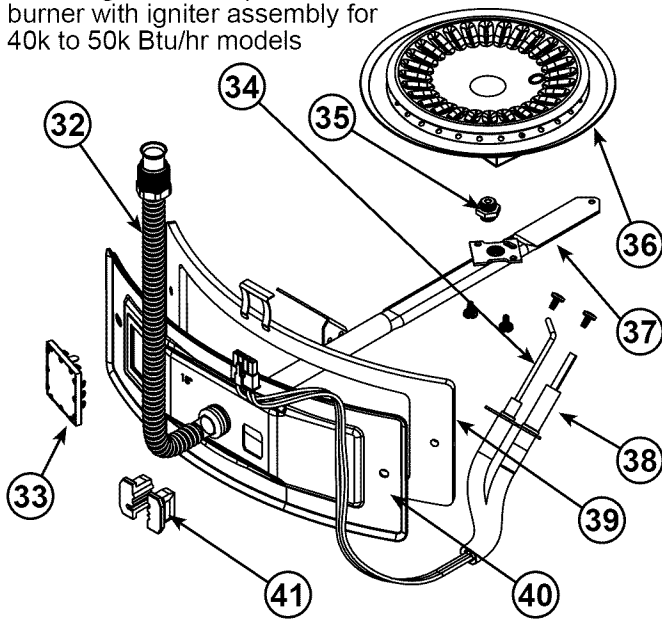
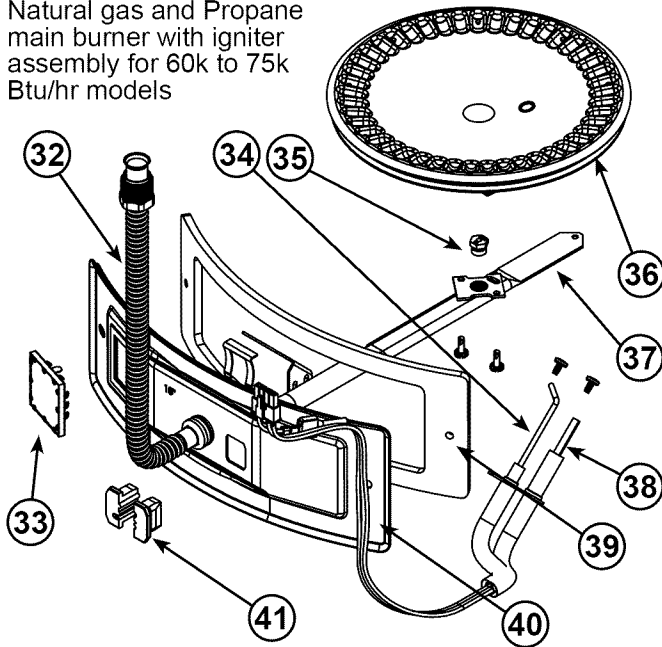
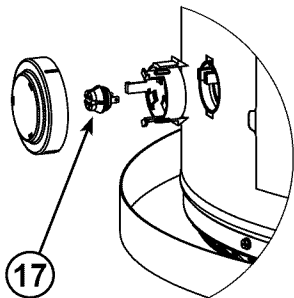
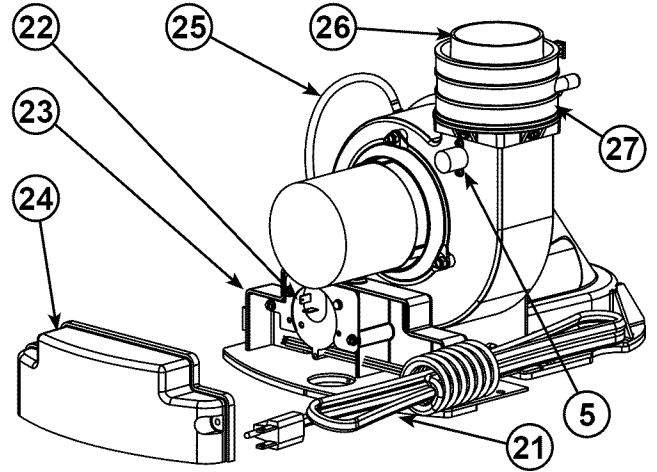

Figure 3.
Figure 4.
Figure 5.
Figure 6.
| 1. Vent Termination Elbow with Rodent Screen | 18. **Combo Heating System Return Inlet (Optional) | 35. Gas Orifice (see Figure 3 & Figure 4) |
| 2. *Vent Pipe | 19. Air Inlet Snorkel | 36. Sheet Metal Burner (see Figure 3 & Figure 4) |
| 3. *Vent Pipe Coupling (if required) | 20. **Combo Heating System Supply Outlet (Optional) | 37. Gas Manifold (see Figure 3 & Figure 4) |
| 4. *Vent Pipe Elbow (long radius) | 21. Blower with Power Cord (see also Figure 6) | 38. Hot-Surface Igniter (see Figure 3 & Figure 4) |
| 5. Blower High Limit Switch (see Figure 6) | 22. Air Switch (inside box) (see Figure 6) | 39. Manifold Door Gasket (see Figure 3 & Figure 4) |
| 6. T&P Valve | 23. Junction Box (see Figure 6) | 40. Manifold Door (see Figure 3 & Figure 4) |
| 7. Cold-Water Inlet Nipple/Diptube | 24. Junction Box Cover (see Figure 6) | 41. Two Piece Grommet With Clip (see Figure 3 & Figure 4) |
| 8. Baffle Assembly | 25. Air Tubing (see Figure 6) | 42. *Inlet Water Shut-off Valve |
| 9. * Discharge Pipe | 26. Rubber Coupling (see also Figure 6) | 43. *Gas Supply* |
| 10. Gas Control Valve/Thermostat (Honeywell) | 27. Gear Clamp (see also Figure 6) | 44. *Main Manual Gas Shut-off Valve |
| 14. Manifold Door Assembly (behind outer door) (see Figure 3 & Figure 4) | 31. ***Control Harness | 48. Rating Plate |
| 15. *Floor Drain | 32. Flexible Manifold Tube (see Figure 3 & Figure 4) | 49. *Thermal Expansion Tank (required for all closed systems) |
| 16. *Metal Drain Pan | 33. Viewport (see Figure 3 & Figure 4) | |
| 17. Flammable Vapor Sensor (under cover) (see Figure 5) | 34. Flame Sensor Rod (see Figure 3 & Figure 4) | |
This device is located on the blower (see Figure 6, item 5) and limits the maximum temperature of the blower. If the blower temperature rises above the temperature setting, the switch opens causing the heater to shut down. The switch will auto reset once the temperature drops sufficiently.
This device, located in the junction box, monitors the air pressure produced by the blower. In the event that the exhaust venting becomes blocked or sufficiently restricted, the switch will shut the heater down (see Figure 6, item 22).